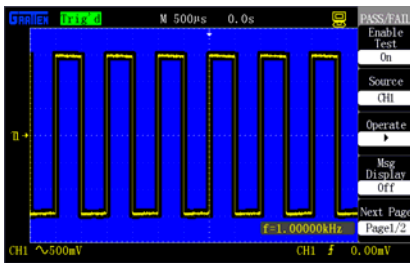

Figure 2-73 Page 1 of pass/fail menu
- 5) Press **"Signal source selection"** to select the signal input channel. In figure 2-73 CH2 is selected.